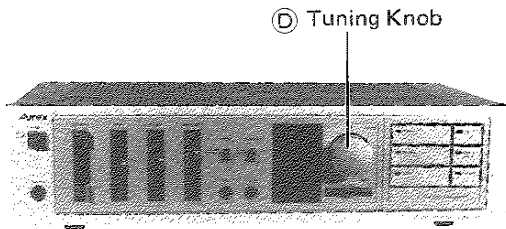

Figure 7
2. Pull out one tuning knob (D) as shown in Figure 7.